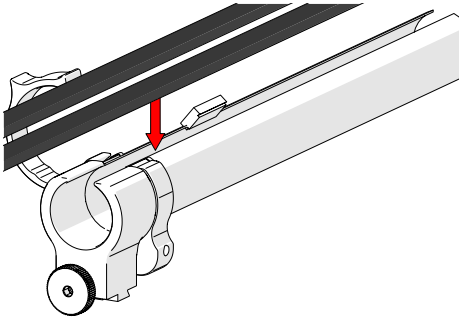

Fig. 150 - Insert cables and hoses
1. Open the cable management. Begin at the tube's dovetail mount and place the cabling in the tube (*Fig. 150*).